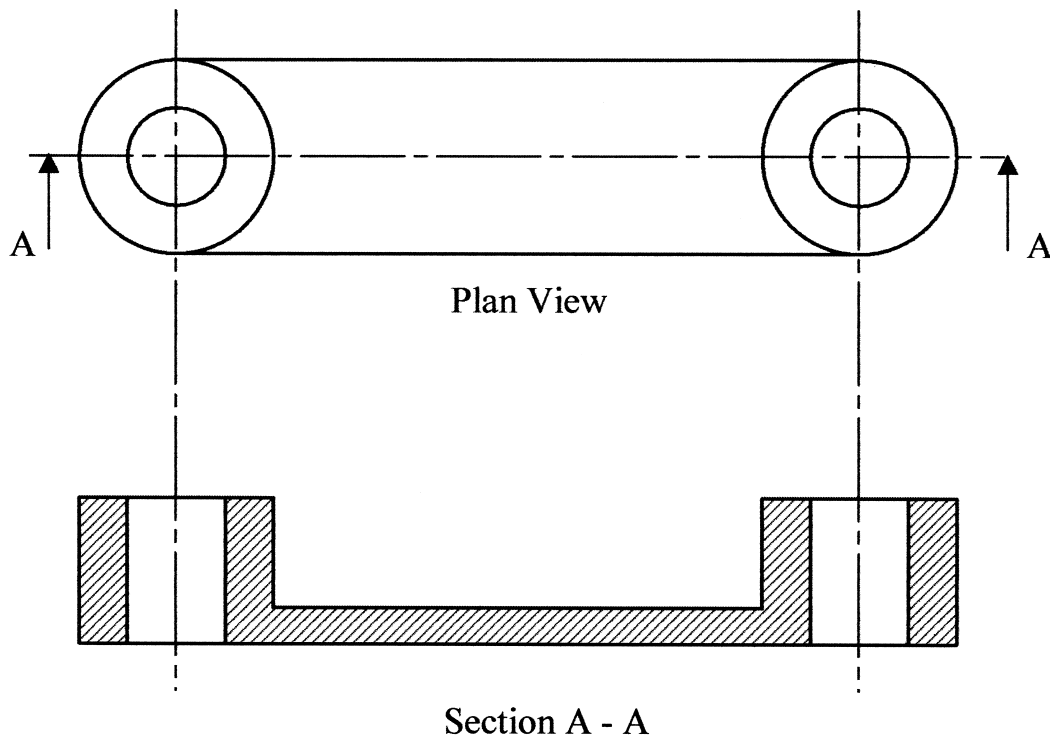

Figure 12
- (b) The orthographic drawing of a coupling rod used in the drive mechanism of the train is shown in **Figure 12**. Modify this drawing to show a simple way of strengthening the rod.